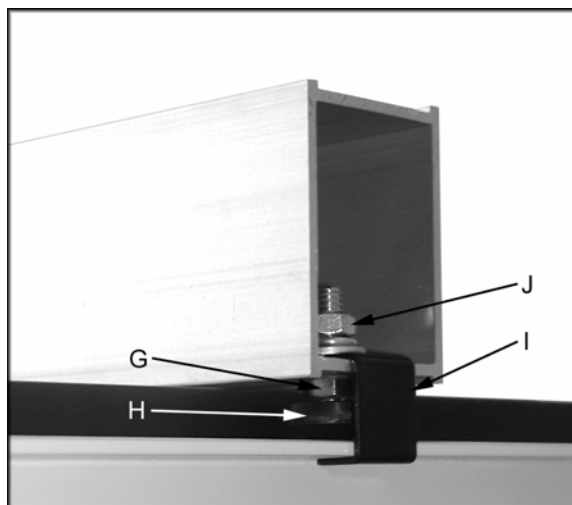

Figure 10
2. Thread a hex nut (G, Fig. 10) onto the pad's threaded stud (H, Fig. 10) and insert through the fence and rear hook (I, Fig. 10). Secure in place using a hex nut, lock washer and flat washer (J, Fig. 10).